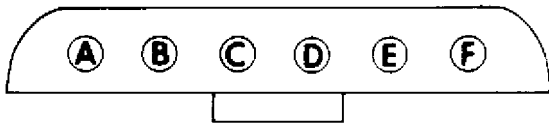

Fig. 6: Blower Control Connector
3) Connect test lamp between blower control terminal B and ground. If test lamp lights, connect test lamp between blower control terminal E and ground. If test lamp lights, check voltage between blower control terminal F and ground. If voltage is less than .4 volt go to step 4). If more than .4 volt, replace blower control. If test lamp does not light, repair wiring between blower control terminal E and programmer terminal M. See Fig. 6.